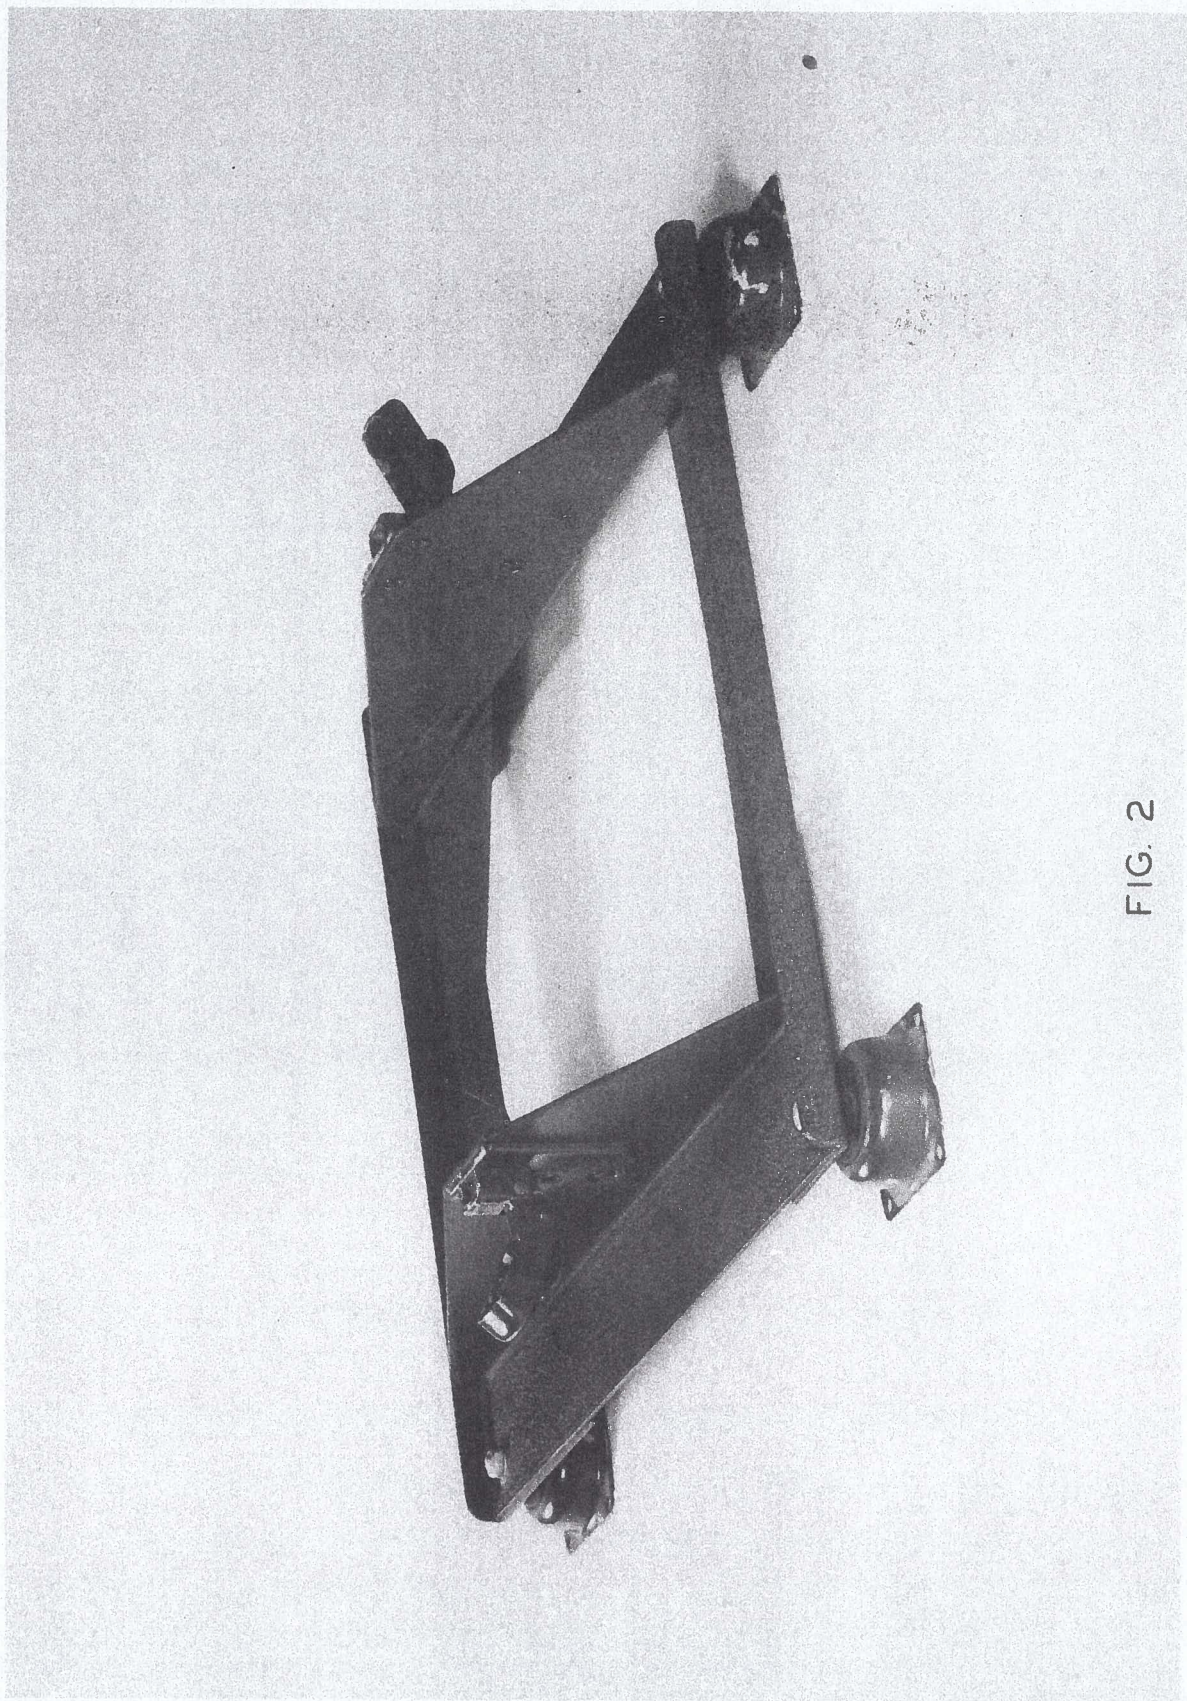

FIG. 2
- (1) Calibrator 'ON' adjust L2 iron core for maximum crystal drive as indicated by V.T.V.M. across V5 control grid and ground, then back off iron core (turning iron core out) until drive drops 15 %.
- (2) Adjust crystal trimmer C35 to bring crystal oscillator frequency to 1000 kilocycles, plus or minus 1 C.P.S. When this condition has been achieved it should be found that C35 is neither all 'in' nor all 'out' but has sufficient adjustment remaining to swing the frequency plus 5 C.P.S. on one side of 1000 kilocycles and minus 5 C.P.S. on the other side.
- (3) The multi-vibrator 100 kilocycles series (appearing at the coupling and ground terminals) should now be checked to insure that the crystal is controlling the M/V. This check may be in the nature of an aural test such as tuning in the M/V harmonics on a receiver, and as the receiver is tuned across a given band (e.g. 100 to 200 kc's ; 200 to 400 kc's , 400 to 1000 kc's ; 1000 to 3000 kc's ; etc.) noting that the frequency interval between each M/V harmonic is 100 kc's. as indicated by the receiver dial. When making this test the RX B.F.O. should be switched on and the gain control kept as low as possible. This check is to be made on both high and low battery voltage ie 90 volts, minus 2%, plus 5%, H.T. 1.4 volts minus 5%, plus 10% L.T. and 75 volts plus or minus 2%, H.T. 1.17 volts plus or minus 2%, L.T. respectively. The method of obtaining the low battery voltage being as shown in figure 2. For both cases of battery voltages the M/V harmonics should be pure cw carriers and the frequency interval between adjacent harmonics should be 100 kc's.